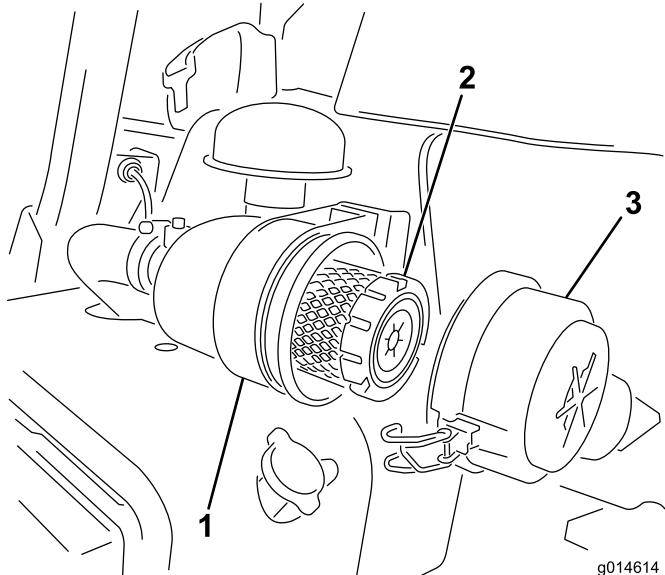

Figure 42
- Release the latches securing the air cleaner cover to the air cleaner body (Figure 42).
6. Secure the latches (Figure 42).